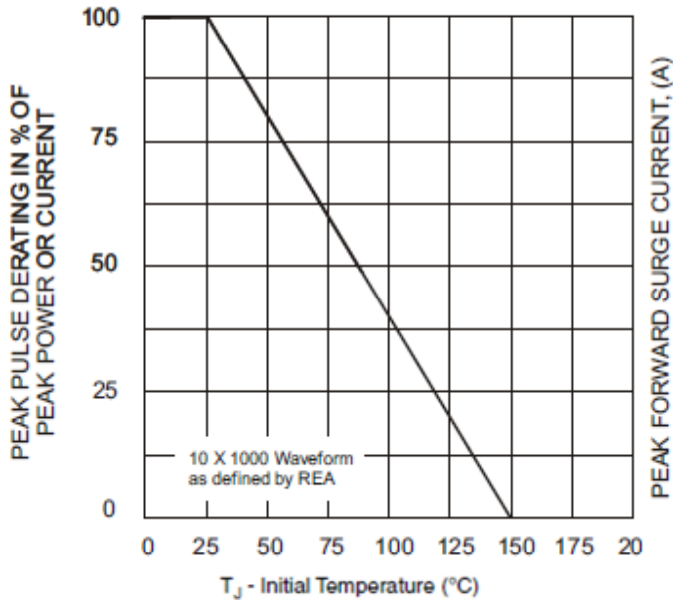
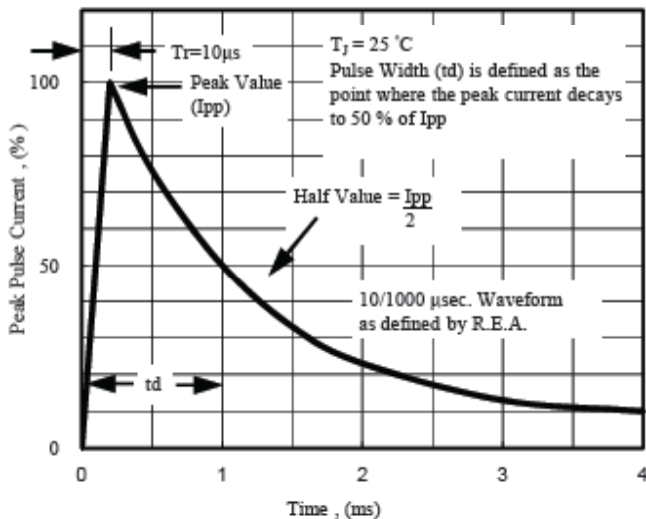

Fig. 1 - Pulse Derating Curve
Fig. 5 - Pulse Waveform
1)Non-repetitive current pulse per Fig.5 and derated above  $T_A = 25^\circ\text{C}$  per Fig.1 ;